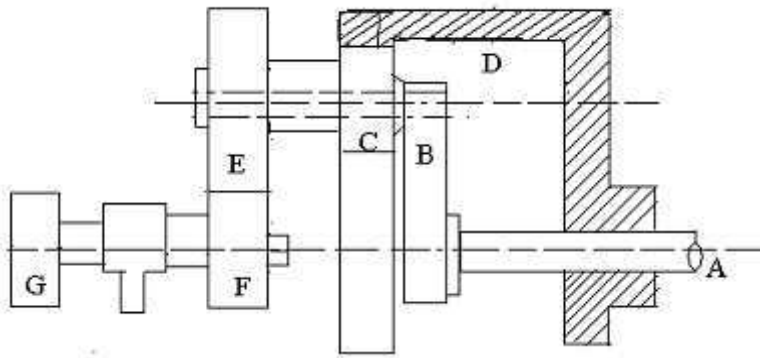

Figure 3:
8. In the epicyclic reduction gear shown in Figure 3 a shaft A is driven by an arm B, which is fixed to it. B has a pin fixed to its outer end, and two pinions, C, E which are cast together in one piece, revolve on this pin. C gears with an annular fixed wheel D and E gears with a pinion F which is driven by a belt pulley G. The number of teeth are as follows: